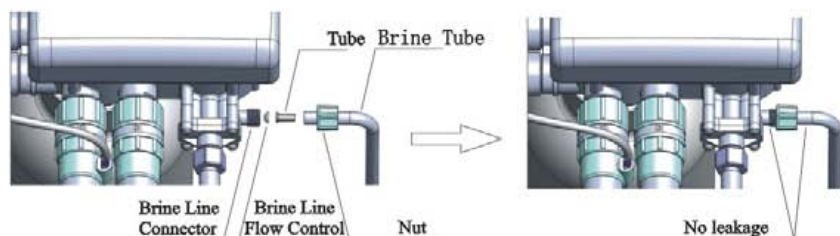

Figure1-5
⑥Connect brine tube
- As Figure1-5 shows, slide 3/8" brine tube hose connector over end of brine tube.